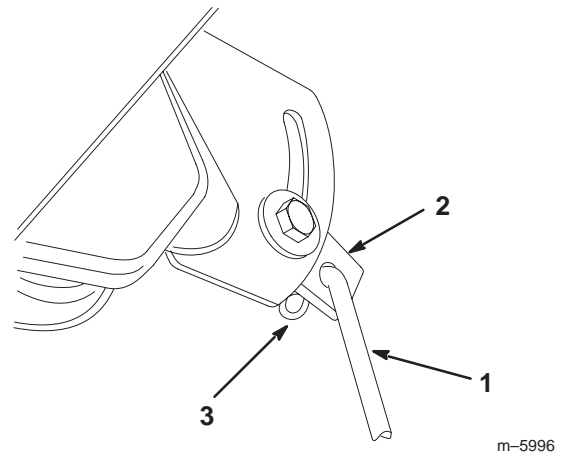

Figure 11
2. Install speed control rod to right side of speed control lever (under control panel) with a hair pin cotter (Fig. 11).